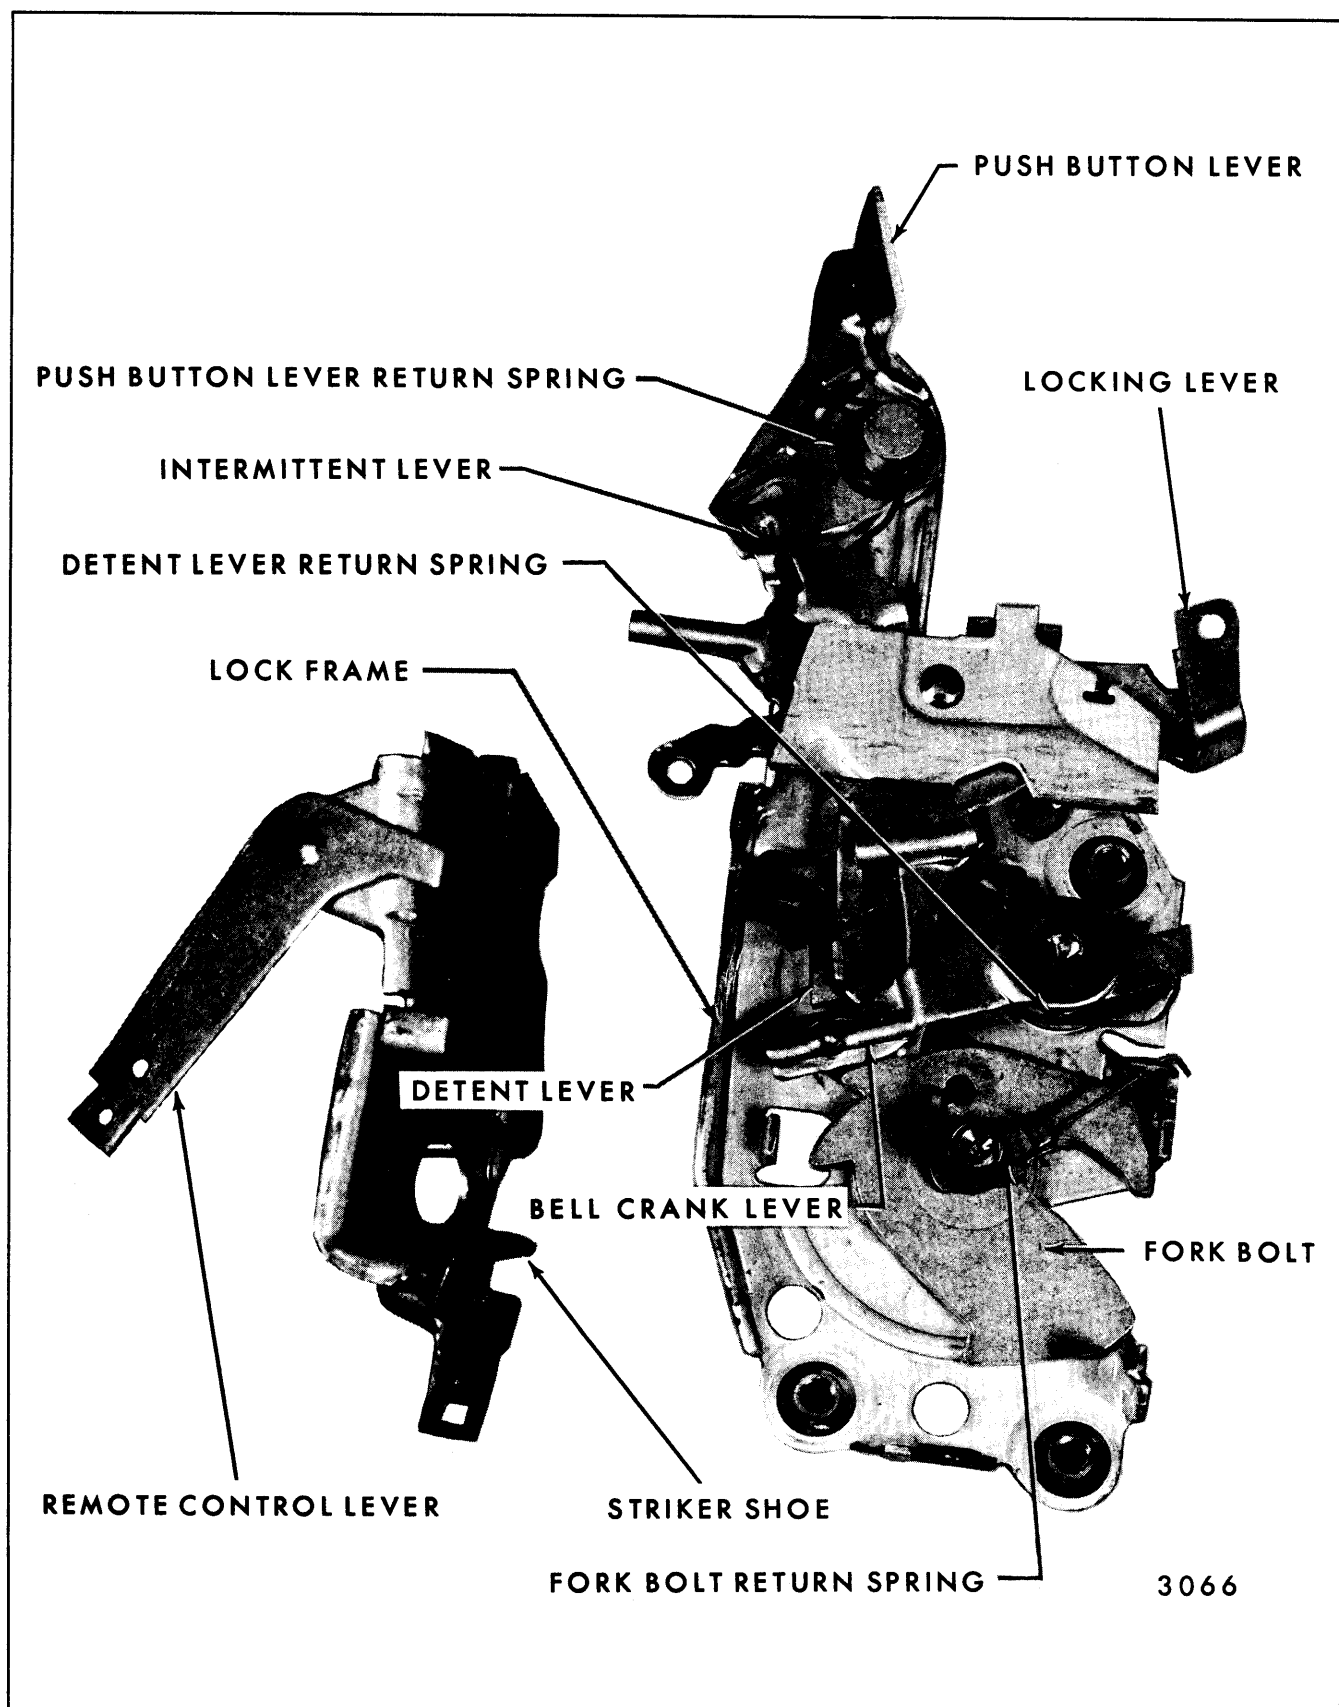

Fig. 6-67—Front Door Lock Assembly - All Styles
**NOTE:** Figure 6-67 depicts a typical front door lock assembly which can be used for identifying locking problems. Do not attempt repairs to correct lock discrepancies. Make corrections through replacement of lock assembly.